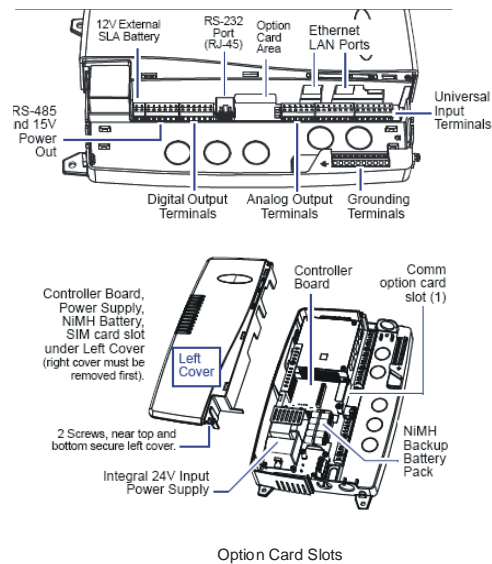

Figure 2: FX22/FX62 Option Card Slot
2. Remove the FX Supervisory Controller cover (FX20/FX60/FX70) or covers (FX22/FX62). For the FX20/FX60/FX70, press in the four tabs on both ends of the cover and lift off. For the FX22/FX62, first remove the right cover, then the left cover, retaining the two screws that secure each cover (Figure 2).